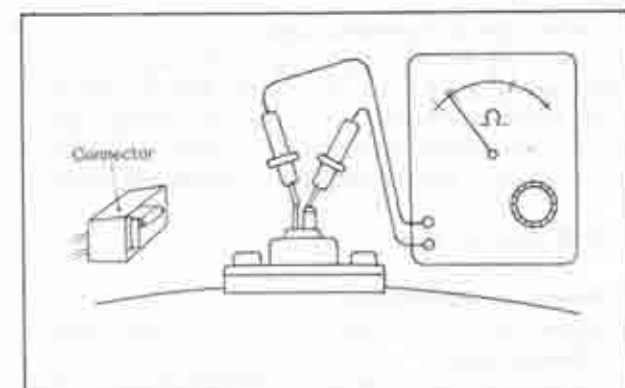

Fig. 1A-43 Checking of thermosensor
2. Connect the ohm meter as in Fig. 1A-43, and check the resistance. Reading of **under 200 k Ω** indicates that the thermosensor is normal.